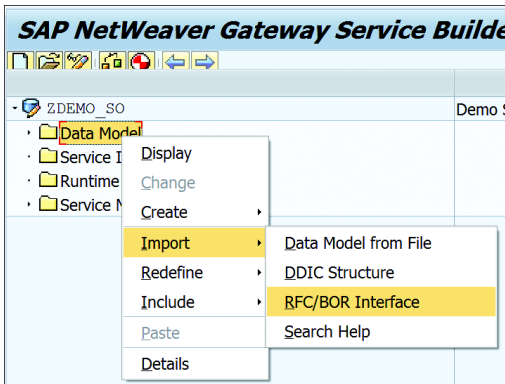

Figure 19.104 Import RFC/BOR Interface
3. Right-click the DATA MODEL folder and select the menu path **IMPORT • RFC/BOR INTERFACE** (see Figure 19.104) from the context menu.